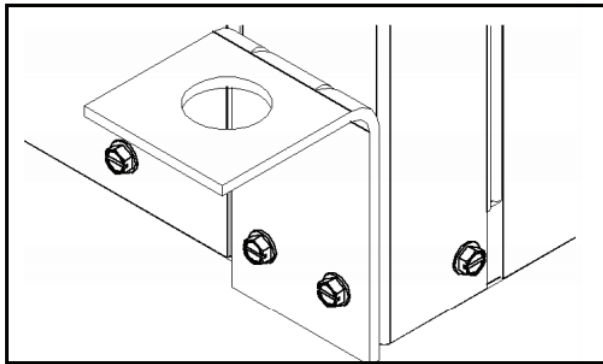

Fig. 8 — Mounting Brackets
2. Mount 4 brackets to unit corner post using the bolts provided in the kit, as shown in Fig. 8. DO NOT re-use the screws removed from the unit during Step 1 to mount the hanging brackets on the unit.